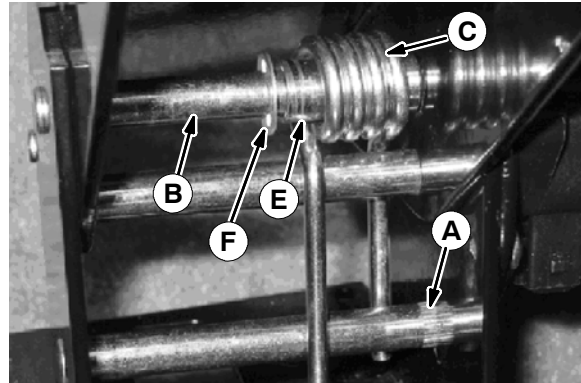

FIG. 7
7. Remove the e-clip (F) from the upper shaft (B) under the pedal. Refer to Fig. 7. Slide the spring toward the center of the shaft to release tension.
9. If possible, remove the lower shaft (A) to make reassembly easier. Refer to Fig. 7. If this lower shaft is very tight, do NOT remove it. If it can be easily removed by hand, then remove it.
14. Work the spring (C) over to the center of the bushing (E) and slide the spring/bushing combination to the sensor side of the pedal. Refer to Fig. 7.
*Tip: This is easier to complete if the pedal is in the neutral position. Install the new e-clip (F) in the shaft groove.*